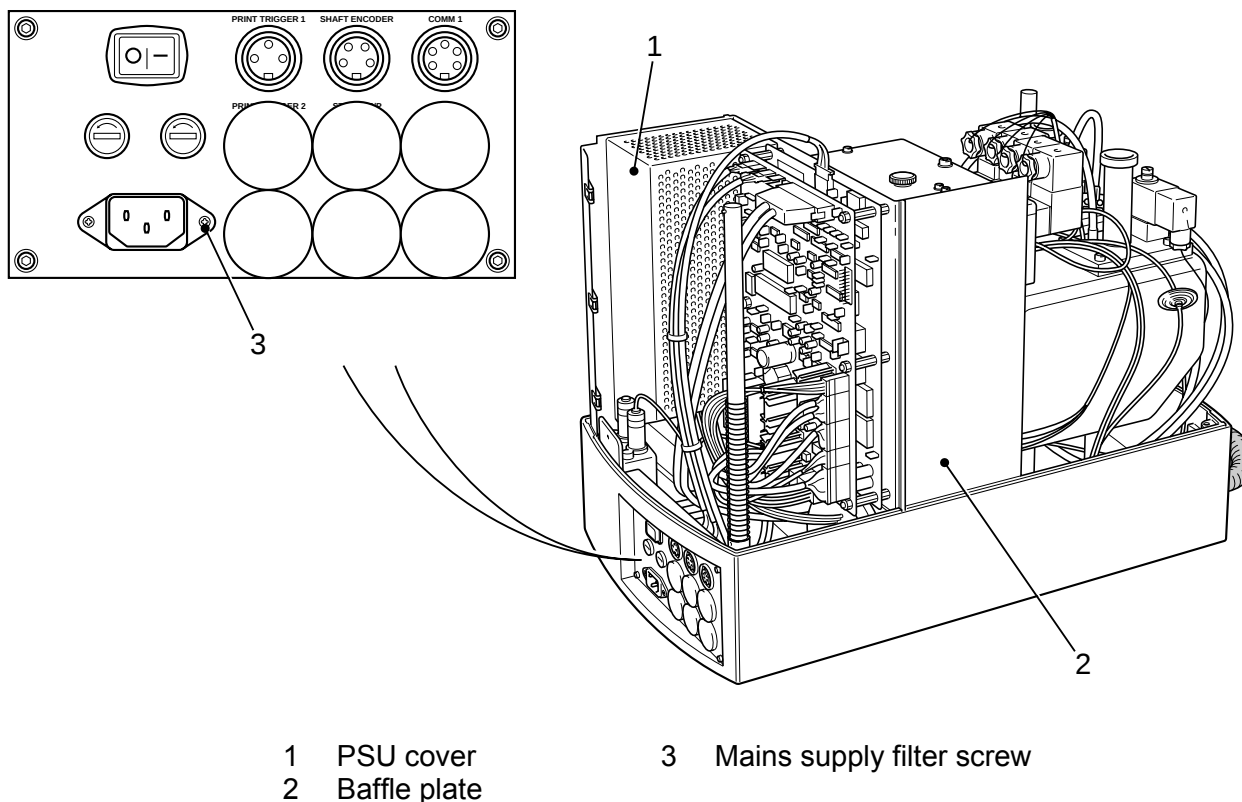

Fig 11.63 Earth continuity test points
93.1 Mains supply filter screw (Fig 11.63 (3)).